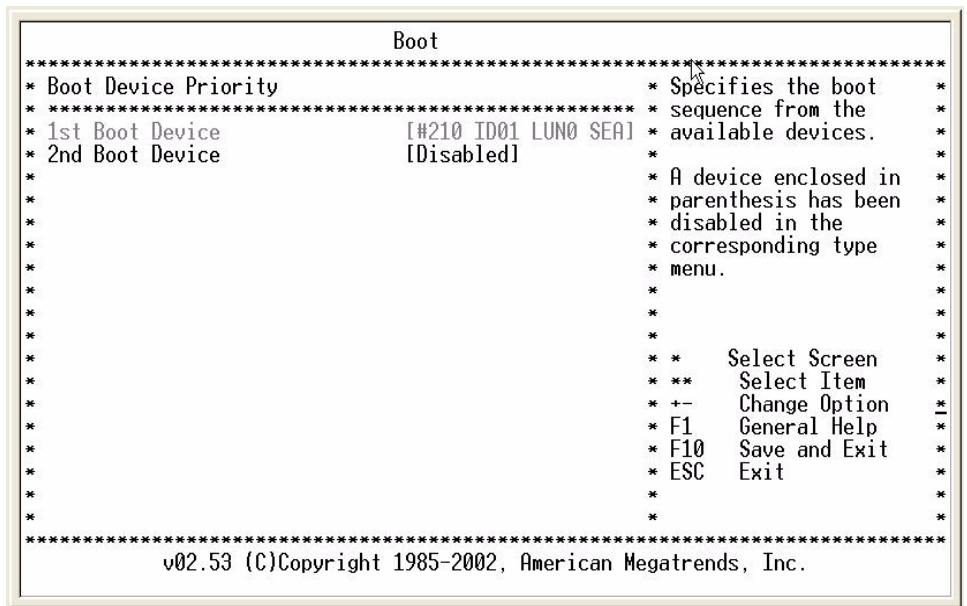

FIGURE 4-5 Completed Boot Device Priority Menu
8. Disable all unneeded boot devices so that the menu appears like FIGURE 4-5.